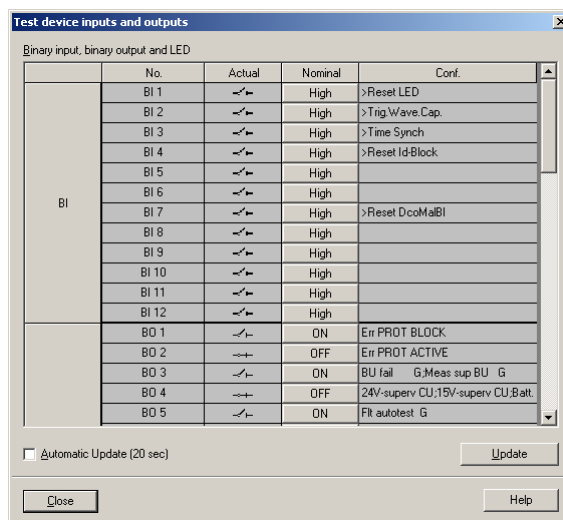

Figure 7-7 Dialog box devices in/outputs – Example
- Double-click in the list **Test device inputs and outputs**. The dialog box with this name is opened (see Figure 7-7, page 299).